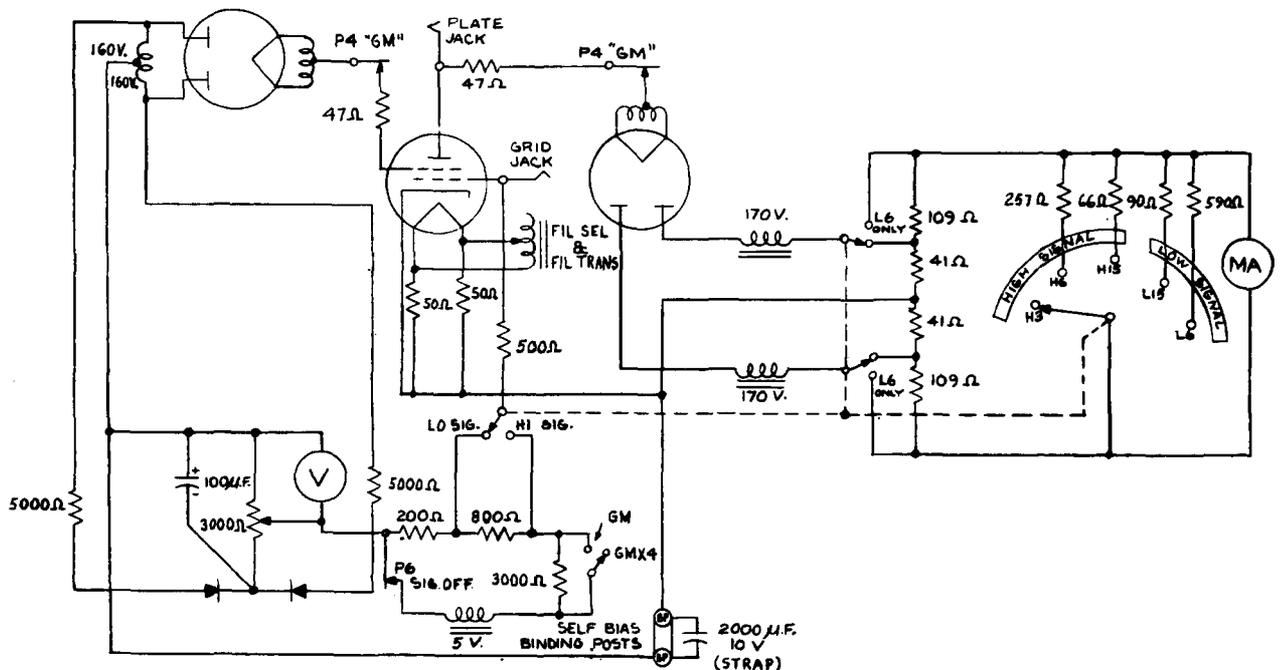

Fig. 2 - Basic Transconductance Test Circuit KS-15559, L1 (Shunt, previously designated "English," Potentiometer Test Circuit Not Shown)
2.20 When measuring indicated transconductance or testing cathode (filament) activity, the set is arranged to provide the circuit shown in Fig. 2. The 5Y3GT-type full-wave rectifier tube supplies unfiltered (pulsating) d-c potentials to the screen grid (if any) of the tube under test. Control grid bias is developed from a full-wave selenium rectifier circuit which derives the a-c voltage supply from the screen grid high voltage transformer winding. The unfiltered plate potential is derived from a separate rectifier employing an 83-type tube with balanced transformer secondaries supplying a-c potentials of 170 volts to each plate of the rectifier tube. The 83-type full-wave rectifier tube is of the mercury vapor type and is used to ensure a minimum internal voltage drop, with better regulation, regardless of load current. The micromhos meter is connected across the potentiometer or resistances in the rectifier circuit as shown. Since the currents in the two resistances are equal, the arrangement is balanced and no potential is impressed on the meter if no a-c signal is impressed on the control grid.